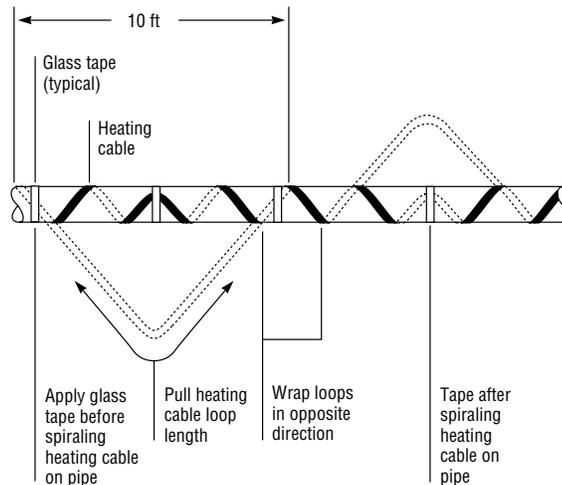

Figure 1. Spiraled heat tracing
- When the design calls for spiraling, begin by suspending a loop every 10 feet as shown in Figure 1. To determine the loop length, obtain the spiral factor from Table 1 or 2 and